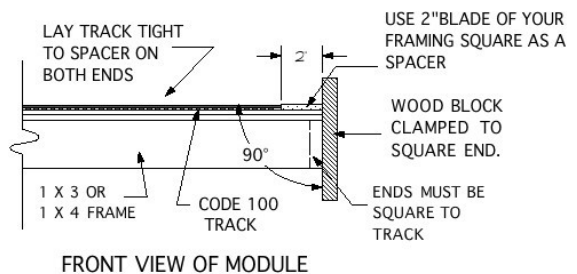

Figure 6: ESTABLISHING TRACK CUTBACK
1. Mainline tracks end 2" from the end of the module. Figure 6 illustrates one method of accurately establishing the 2" cutback.